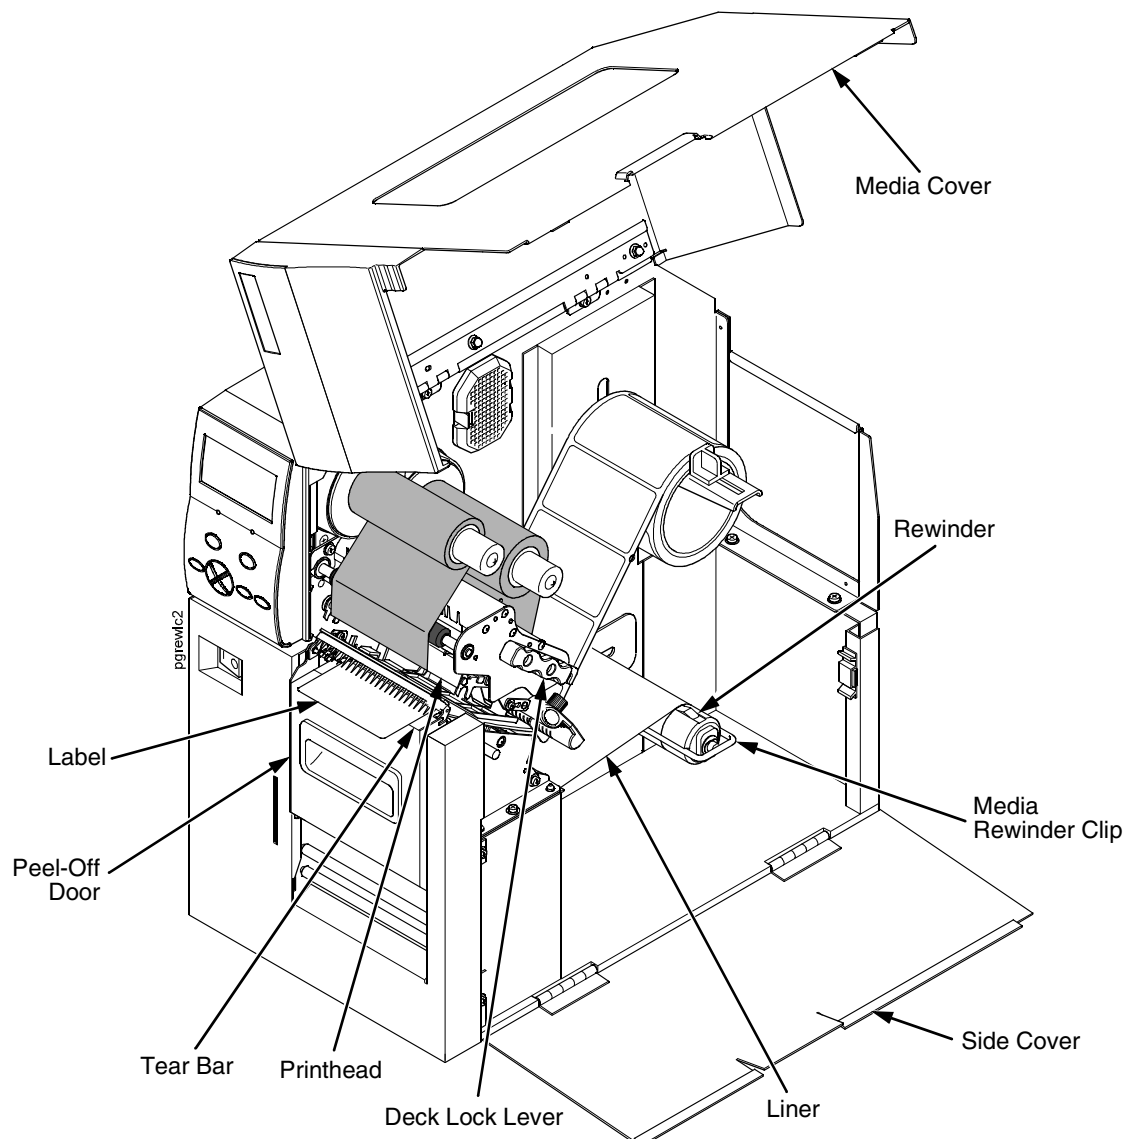

Figure 14. The Rewinder In Peel-Off Mode
17. Press the  (Feed) key. The label advances to the peel-off position, and "LABEL READY Remove Label" displays on the LCD. The liner remains on the rewinder. See Figure 14.